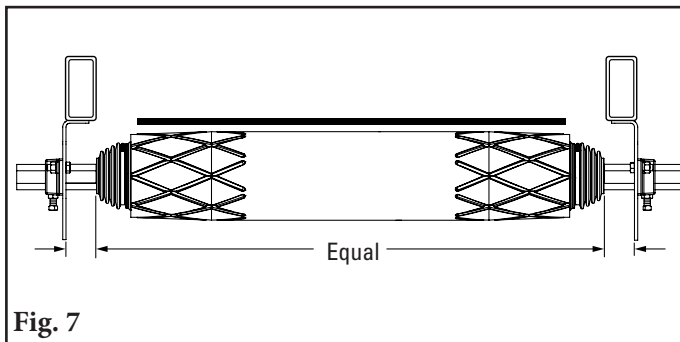

Fig. 7
7. **Ensure main shaft is centered on main shaft brackets** (equal length showing on both sides of roller) (Fig. 7).
- Ensure main shaft is centered on main shaft brackets** (equal length showing on both sides of roller) (Fig. 7).